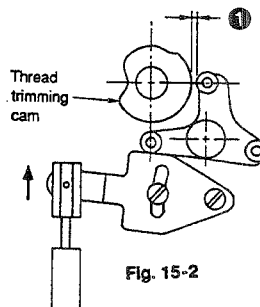

Fig. 15-2
- When the thread trimming cam is in the position (the outermost periphery of the thread trimming cam) as illustrated in Fig. 15-2, clearance ① of 0.5 mm should be provided between the thread trimming cam and the extruding side of the thread trimming cylinder that is in its stroke end.